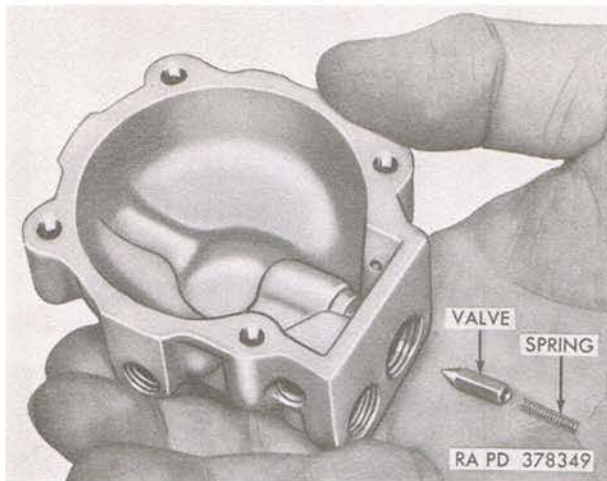

Figure 4. Inlet needle valve and spring.
Remove large fuel bowl plug screw (DD) from fuel bowl (Z) and remove inlet needle valve and valve spring, as shown in figure 4. Remove remainder of inlet needle valve and seat assembly (CC) from fuel bowl. Remove and discard seat gasket (BB). Remove small fuel bowl plug screw (Y) from fuel bowl.